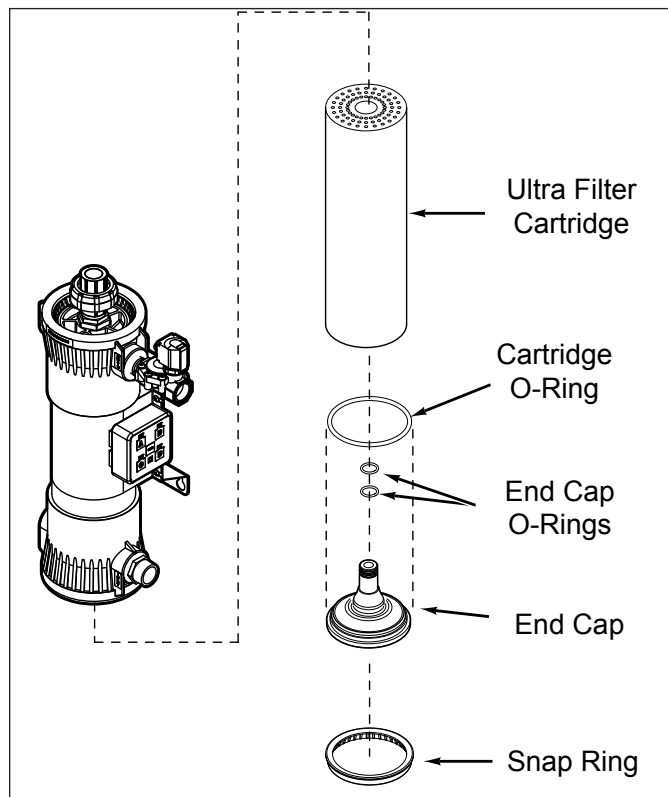

Figure 5. Replacing the Ultra Filter Cartridge
7. Remove the End Cap, End Cap O-ring, and Cartridge from the housing (Figure 5).